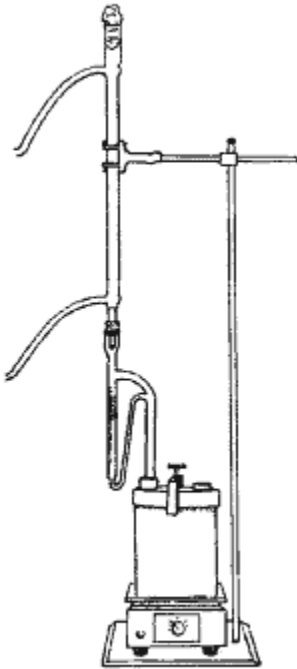

Figure 1—Metal Still (No. 2)
- 2.1 *Metal still*, consisting of a vertical cylindrical container, approximately 5 in. (127 mm) in diameter and 6 in. (152 mm) in depth with removable lid, heavy fiber gasket, or O-ring, and a clamping system. There should be two holes in the lid, each approximately 1 in. (25 mm) in diameter to provide entry of the water trap-condenser assembly and a safety valve. (See Figure 1.)
- 5.7 Insert the volatile trap in the still lid making sure the lower end of trap extends away from the source of heat, and assemble the condenser as shown in Figure 1.